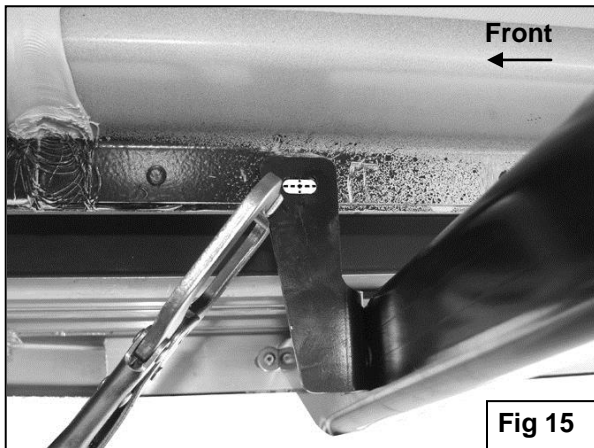

Fig 15
9. Level and adjust the Running Board properly and tighten all Bracket to vehicle hardware. Make sure that the Running Board is level and that the mounting holes in the Brackets are not too close to the bottom edge of the pinch weld before marking any of the holes for the Brackets, **(Figure 15)**.